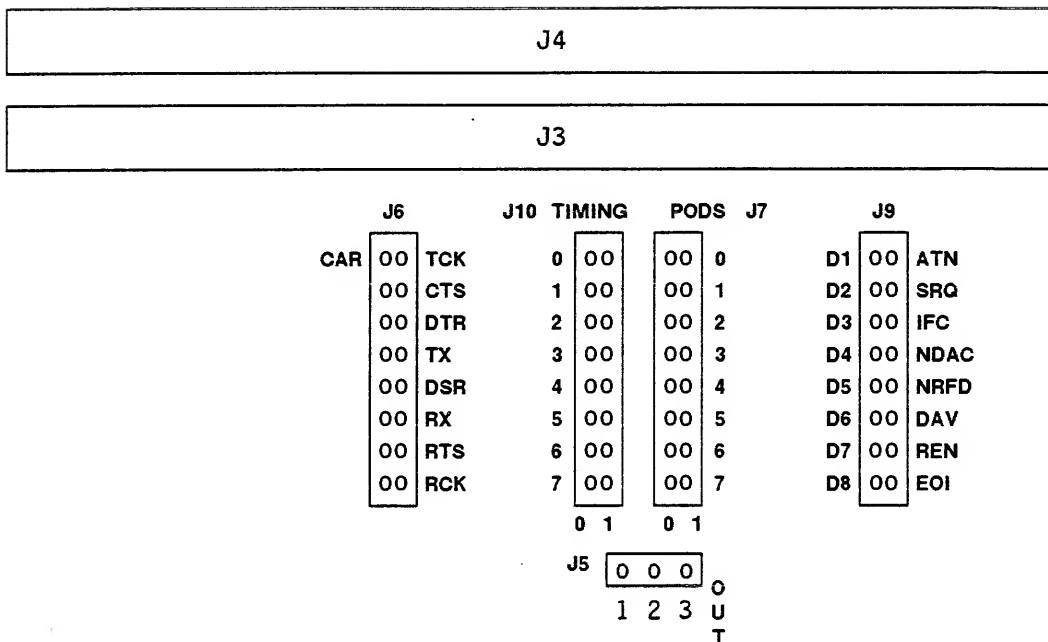

Figure 5-1. RS-232-C Timing Connector Locations
1. On the HP 10342B, connect the ribbon jumper cable to the appropriate pins. All 16 possible timing channels are connected when the jumper cable is connected from J6 to J10. Only nine channels are used with RS-232-C processing (see figure 5-1).
2. If you want to connect any data or control lines to the front-panel outputs, use the single jumper wires to connect pins of J7 to pins of J5 (see figure 5-1). When you are using the mass-connect jumper cable, the signals at J7 correspond to the mnemonics at J6.